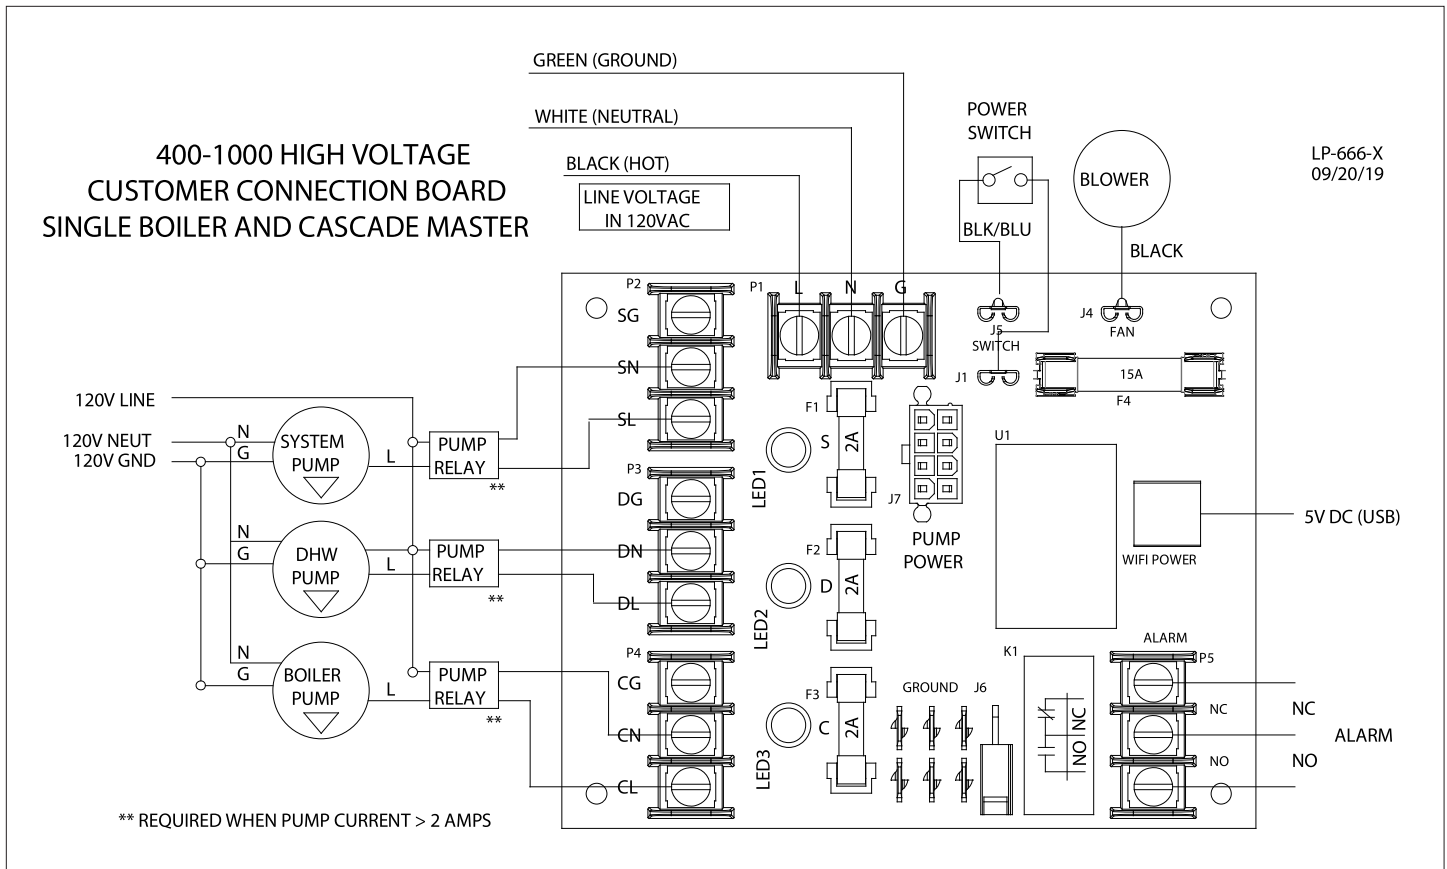

Figure 30 - Cascade Master and Single Boiler High Voltage Wiring - 400 - 1500 Models - F1 - F3 Fuse p/n 6300P-037; F4 Fuse p/n 7550P-285
1. Connect the system pump relay COIL contacts as shown in Figure 30 to the terminals marked SL (SYSTEM HOT) and SN (SYSTEM NEUT).
1. Connect the boiler pump relay COIL contacts as shown in Figure 30 to the terminals marked CL (BOILER HOT) and CN (BOILER NEUT).